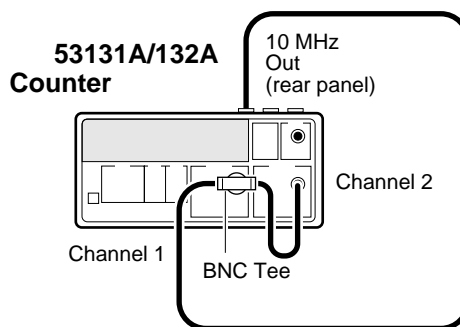
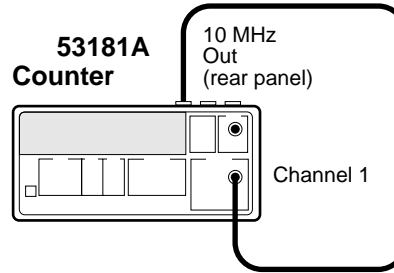

Figure 1-1A. Operational Verification Setup for Agilent 53131A/132A
Figure 1-1B. Operational Verification Setup for Agilent 53181A
- 7 Connect the Counter’s rear-panel 10 MHz Out as shown in Figure 1-1A or Figure 1-1B, depending on which Counter you are testing.**